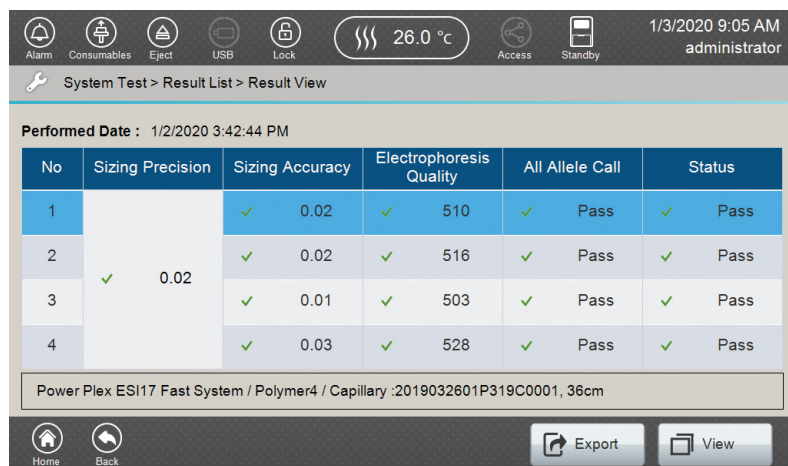

Figure 213. Fragment System Test 'Result View' screen with selected sample.
6. Select the line in the Result List corresponding to the system test sample you wish to review. This will activate **Export** and **View** in the footer (Figure 213).